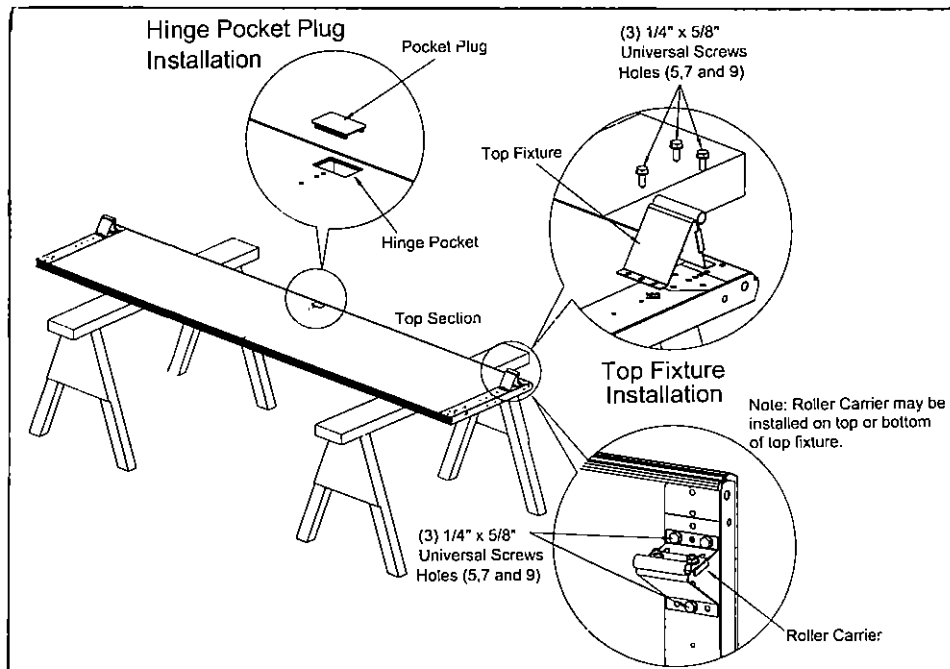

FIGURE 7
If no strut required. Align top fixtures with holes (5,7,9) (Figure 7) on the top corner of each end stile and secure in place as shown using (3) 1/4" x 5/8" universal screws, sliding portion of top fixture should be on top (Figure 7). Install pocket plug(s) at each center stile location as shown in (Figure 7).
Tighten the slide on the top fixture by pushing the top section tightly against the opening and lightly pulling the slide towards the inside of the garage. (Figure 7). Tighten nut.